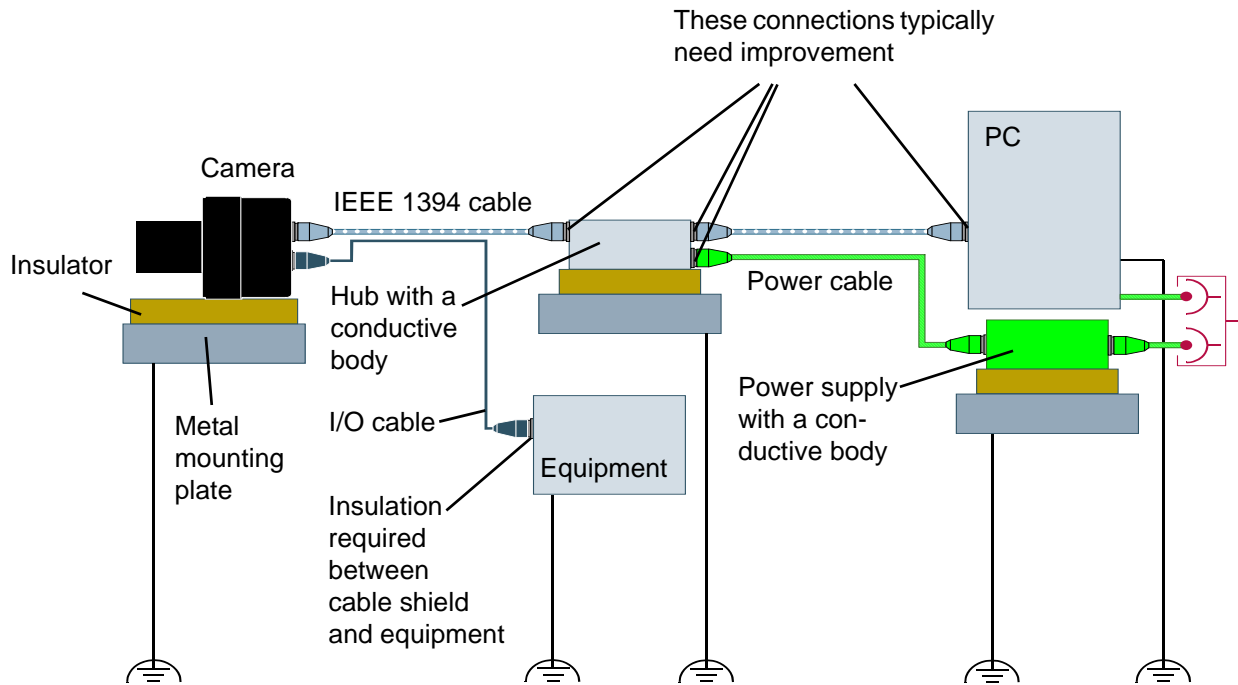

Figure 7: Isolated IEEE 1394 Camera Attached to PC via an Isolated Hub
- Make sure that the PC chassis, the equipment, and the metal mounting plates for the electrical insulators and attached devices (camera, hub, power supply, see Figure 7) are connected to functional earth ground.
- The I/O ground in the camera is isolated from the camera ground. Therefore, the cable shielding on the I/O cable should only be connected at the camera **OR** at your equipment. We recommend connecting the cable shielding at the camera and insulating it from the equipment (see Figure 7).